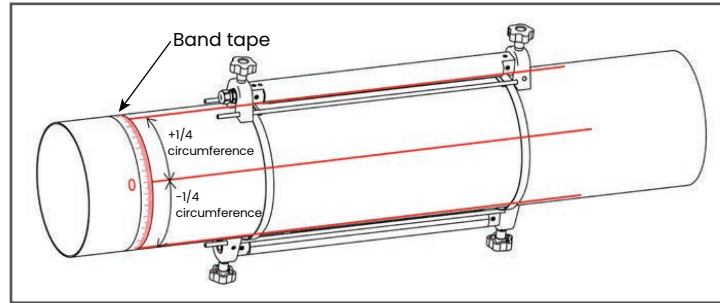

Figure 18: One Traverse Installation with Two Fixtures
3. Install two mounting straps on the pipe about 12 in. (30 cm) apart (see Figure 18 below).